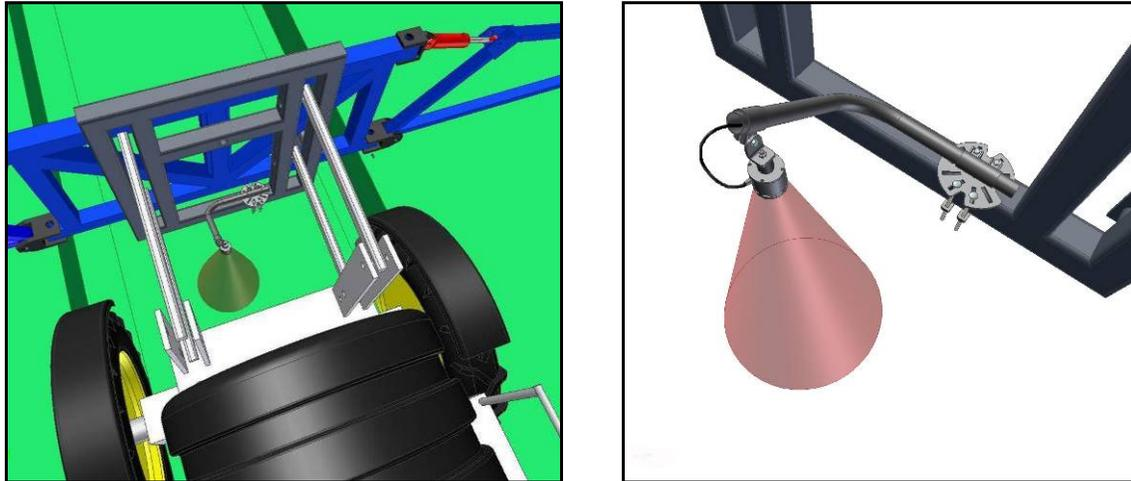

Figure 10: Example Mounting of the Main Lift Bracket
1. There are a variety of ways to mount the main lift bracket on most sprayers. The bracket should position the sensor approximately in the center of the sprayer, forward of the boom. An example of this mounting is illustrated in **Figure 10**.